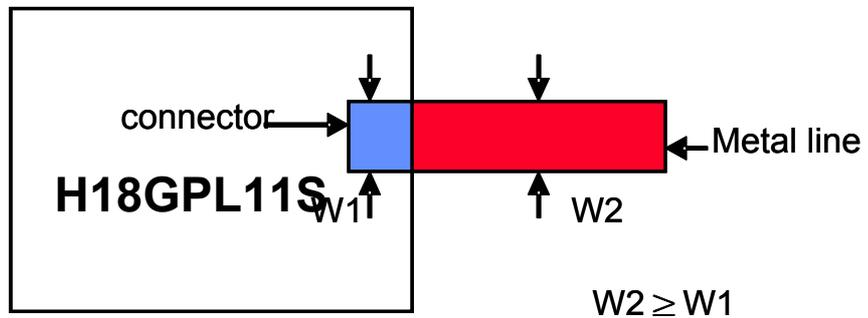

Figure 6. Connector width
- 3) The power metal width should be larger than the width of the PLL IP connection. See Figure 6 for an example.